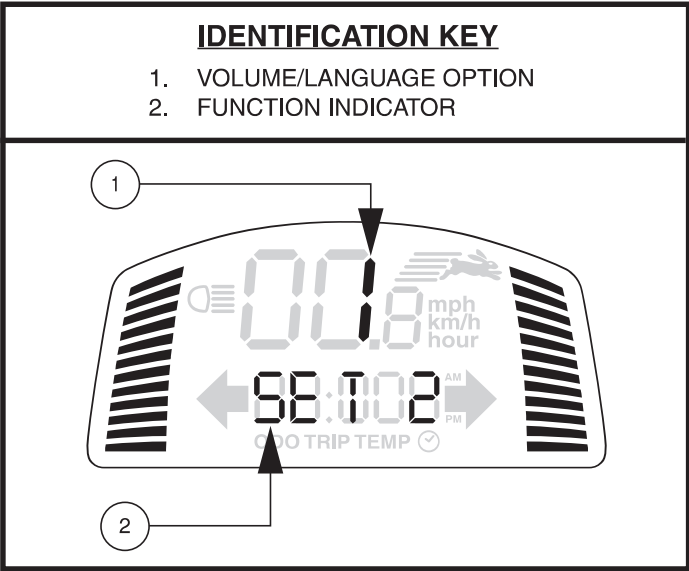

Figure 6. Volume Control Display
***NOTE:** The 4-way flashers will flash and a warning beep will sound as long as the hazard lights are on. See figure 6 for volume control.*
Turn signals, hazard lights, low voltage, and error messages can be set to both blink and beep. The horn is relay operated and its volume cannot be adjusted. See **figure 6**.